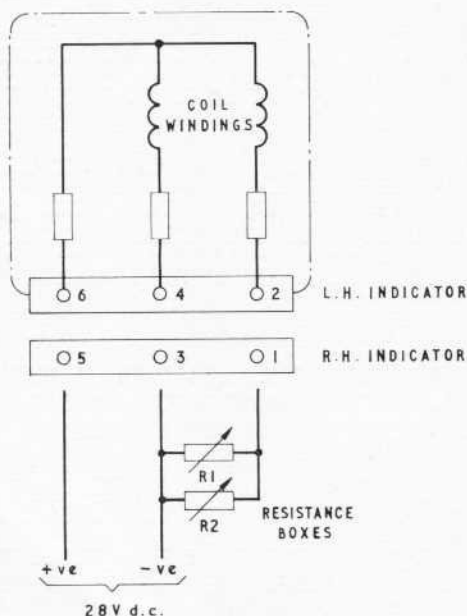

Fig. 2. Circuit and test circuit diagram
3. The combined circuit and test circuit diagram is shown in fig. 2. Connection to the indicator is made by means of terminal screws, fitted with captive washers, at the rear of the indicator.